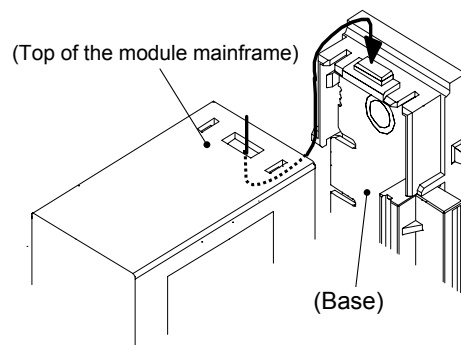

Fig. 2: Mounting the module mainframe
5. Mount the module on the base. (Fig.2)